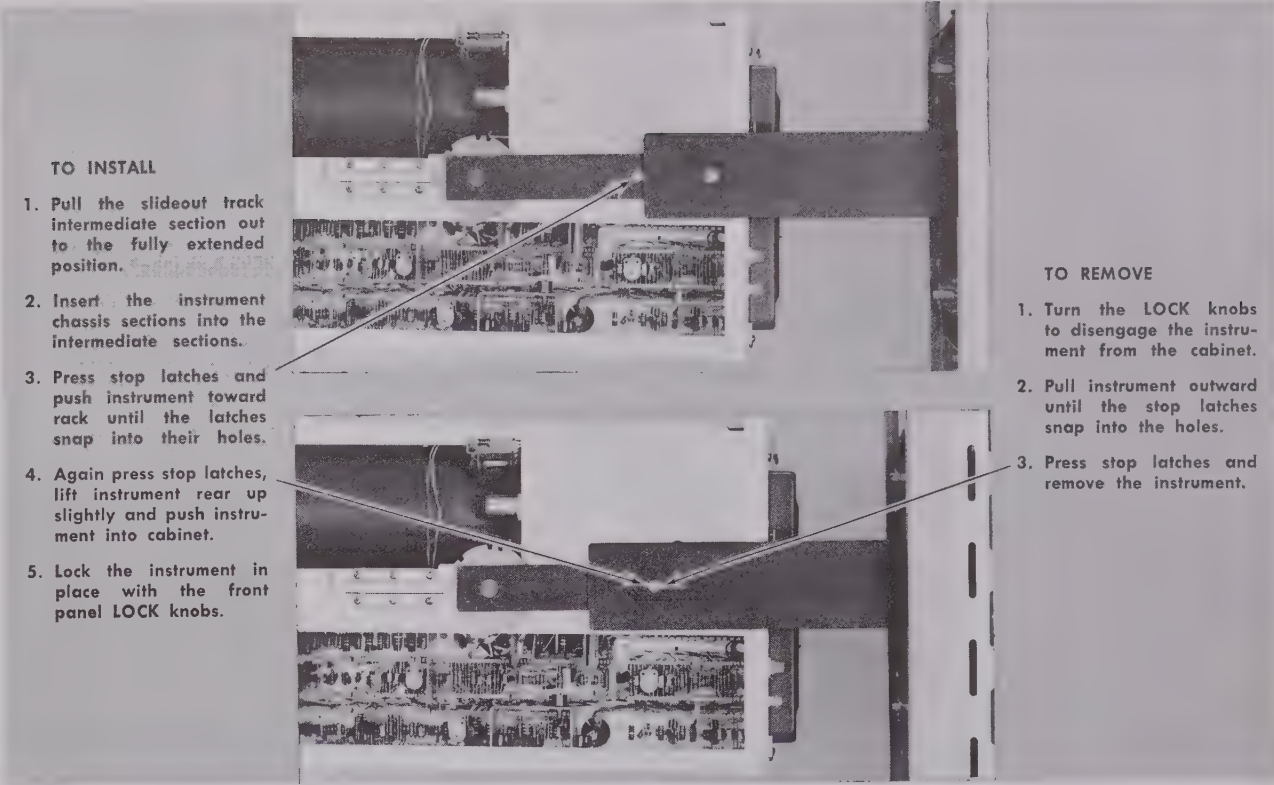

Fig. 7-4. Installing and removing the instrument.
1. Insert the instrument into the cabinet as shown in Fig. 7-4.